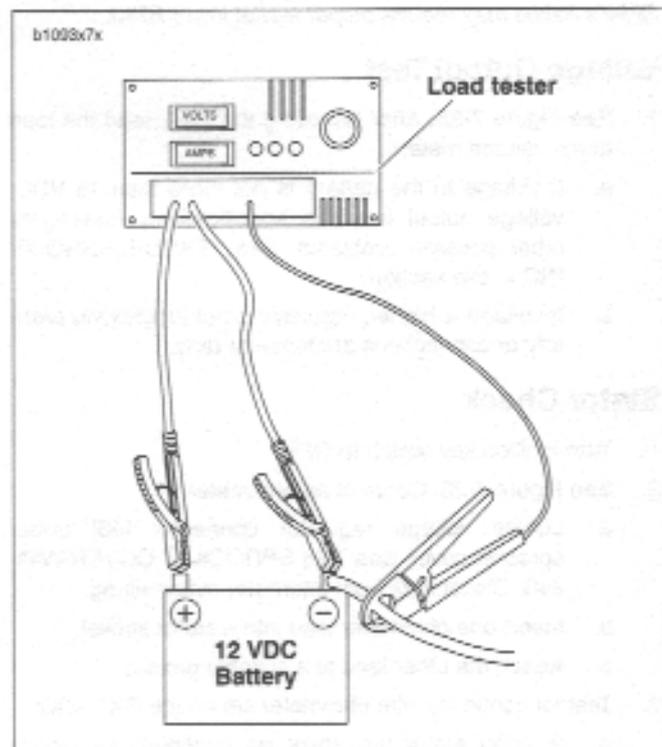

Figure 7-24. Check Current Draw (Ignition Switch On)
1. See Figure 7-24. To check for this condition, place load tester induction pickup or current probe pickup over battery negative cable.